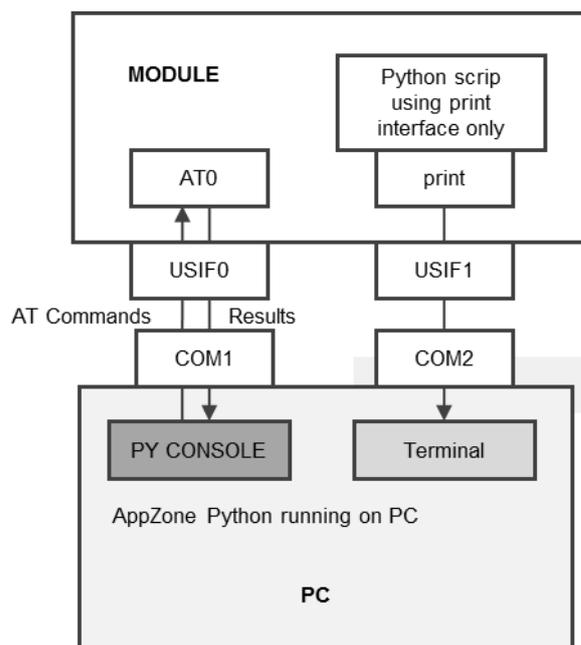

Fig. 3: Python script (print interface only) running on Module
1. Connect a terminal to the USIF1 port as shown in Fig. 3.